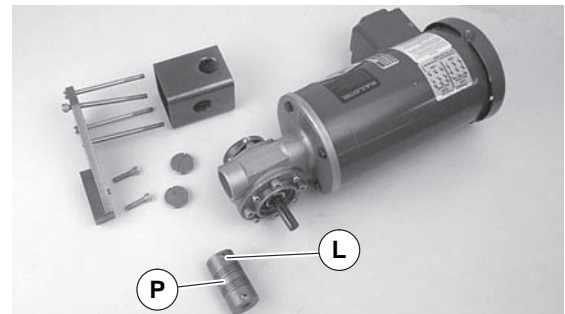

Figure 18
5. Loosen two (2) set screws (Figure 18, item L) and detach coupling (P) from gear reducer.
13. Attach coupling (Figure 18, item P) to gear reducer shaft. Tighten two set screws (L) to 32 in-lb (4.7 N-m).